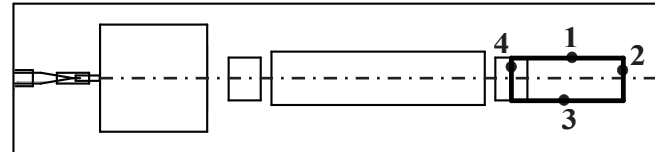

Fig. 29
Step 2. Click the lines of the rectangle that make up the switch, Lines 1, 2, 3 and 4 and press ENTER, **Fig. 29**.